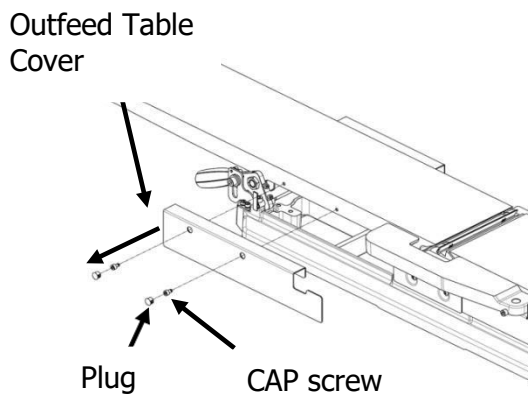

Fig. 44: Table Cover
STEP 2: Remove the plugs and loosen CAPscrews to release and remove outfeed tablecover as in **FIG. 44**.